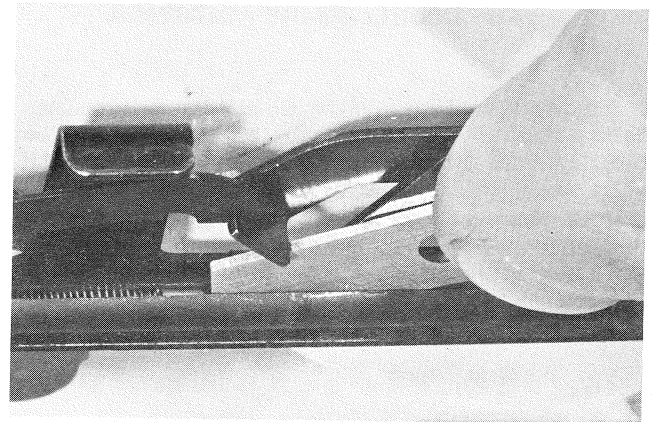
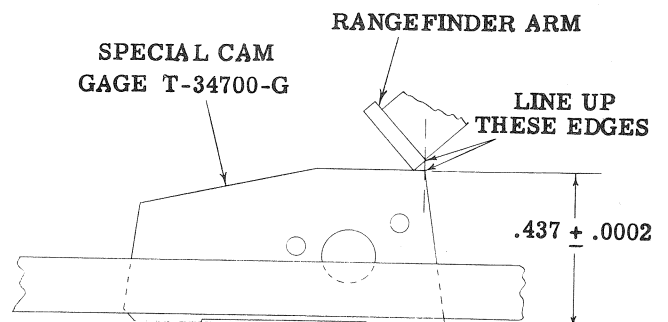

Figure 6: CAM INSERTING
Figure 7. MASTER CAM - PRE-INFINITY SETTING
b. Assemble the master cam gage in the cam slot (figure 6). The bed yoke must be back as far as possible. Assemble the yoke bracket and slide to a position that presses on the lower tube plunger to cause the master cam to line up with the edge of the rangefinder arm (figure 7).
e. Assemble the required lens cam (figure 6) and focus rangefinder at infinity and lock bed. Assemble rangefinder housing and secure with its mounting screws under normal tension. Check the image at infinity to be sure that it has not shifted due to assembly of the housing. Unlock the bed yoke and move forward to set the scales at the nearest marked distance. Check the rangefinder image at this distance measured from the film plane to the target.